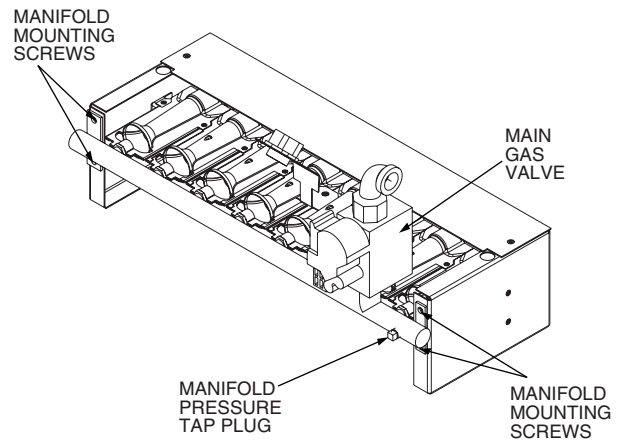

Fig. 3 — Typical Main Burner Section
9. Remove the four screws that attach the gas manifold pipe to the burner bracket and rotate the pipe away from the unit. The pipe should NOT be removed from the wire bundle connecting to the IGC (integrated gas controller) board. See Fig. 3.
1. Attach manifold pipe to the burner bracket using four screws. See Fig. 3. Make sure that all orifice fittings are properly seated in the burner inlets.